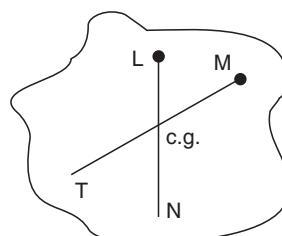

Fig. 7.3
**Another method** for determining the centre of gravity is by *suspension*. Take an object, the section of which is shown in Fig. 7.3. Suspend it from point  $L$ . The body will not come to rest until its resultant weight is vertically downward from  $A$ . Through  $L$ , draw a vertical line  $LN$ . Then suspend the body from a point  $M$ , and let come to rest. Through  $M$ , draw a vertical line  $MT$ . The point of  $LN$  and  $MT$  is the position of the centre of intersection of gravity.